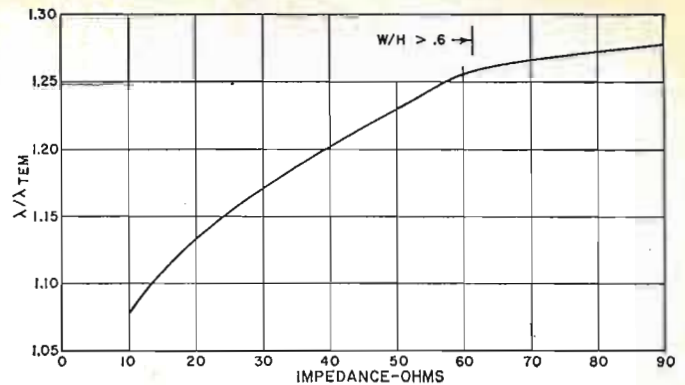

Fig. 3. Actual wavelength of a given section of microstripline is greater than wavelength in free air as shown here.
To compensate for this phenomenon, a correction factor multiplier (K) is applied to the length of the line. Again, employing equations by Caulton and Sobol and resulting computer data, a curve has been derived from which K may be found (Fig. 3). This correction factor is on the vertical axis and is shown as λ / λ_{TEM} , where λ is the wavelength in air and λ_{TEM} is the wavelength in the ceramic substrate that is being used as the example in this article. From the curve, K has a value of 1.23 for a 50-ohm line. Thus, at 3.0 GHz, $\lambda = 10.0$ cm, and $\lambda/4 = 2.5$ cm. This quarter wavelength is then multiplied by K : $2.5 \times 1.23 = 3.075$ cm, which is the actual length of line deposited.